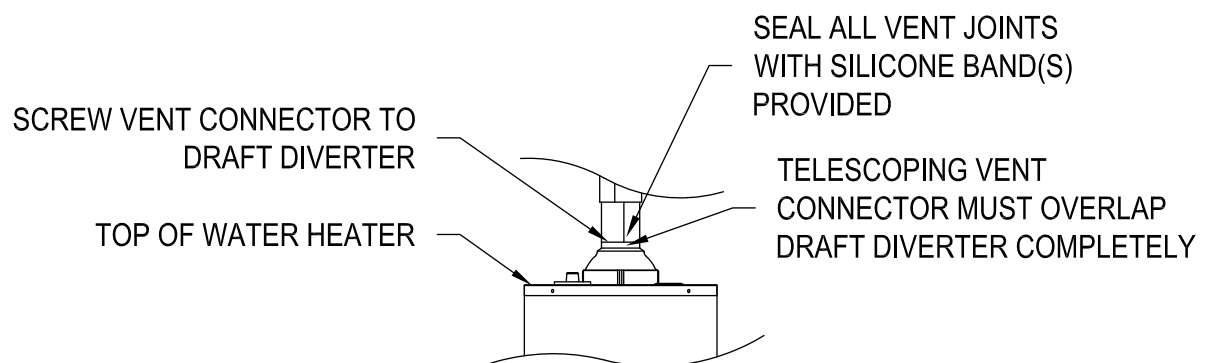

Figure 3
Step 7. Slip the ø3" vent connector extension (shipped telescoped in the roof jack) down over the draft diverter which attaches to the water heater (see Figure 3).
Step 9. Clamp the vent connector extension to the water heater draft diverter using (2) sheet metal screws provided (see Figure 3).
The outer pipe Must extend below the ceiling as noted on the outer pipe of the roof jack (see Figure 3).